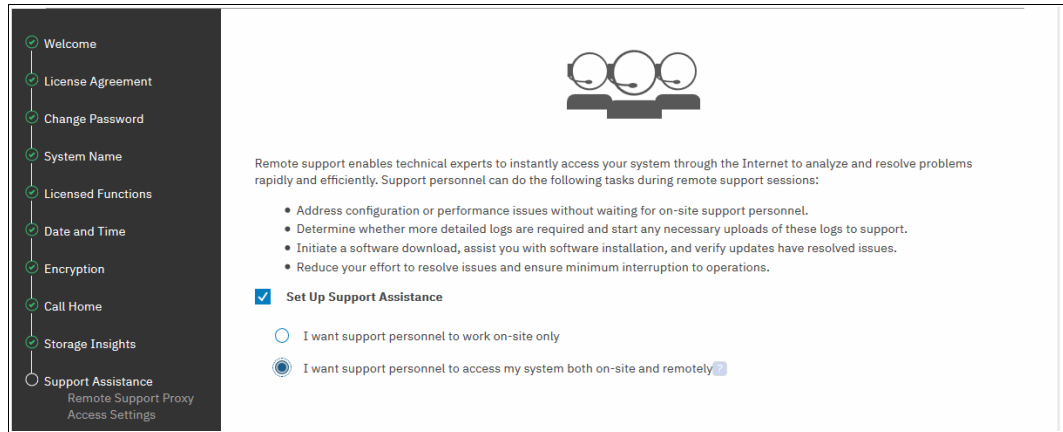

Figure 3-24 System Setup: Support Assistance
11. After you click **Next**, if you enabled at least one Call Home method, the Support Assistance configuration window opens, as shown in Figure 3-24. The Support Assistance function requires Call Home, so if it is disabled, Support Assistance cannot be used.